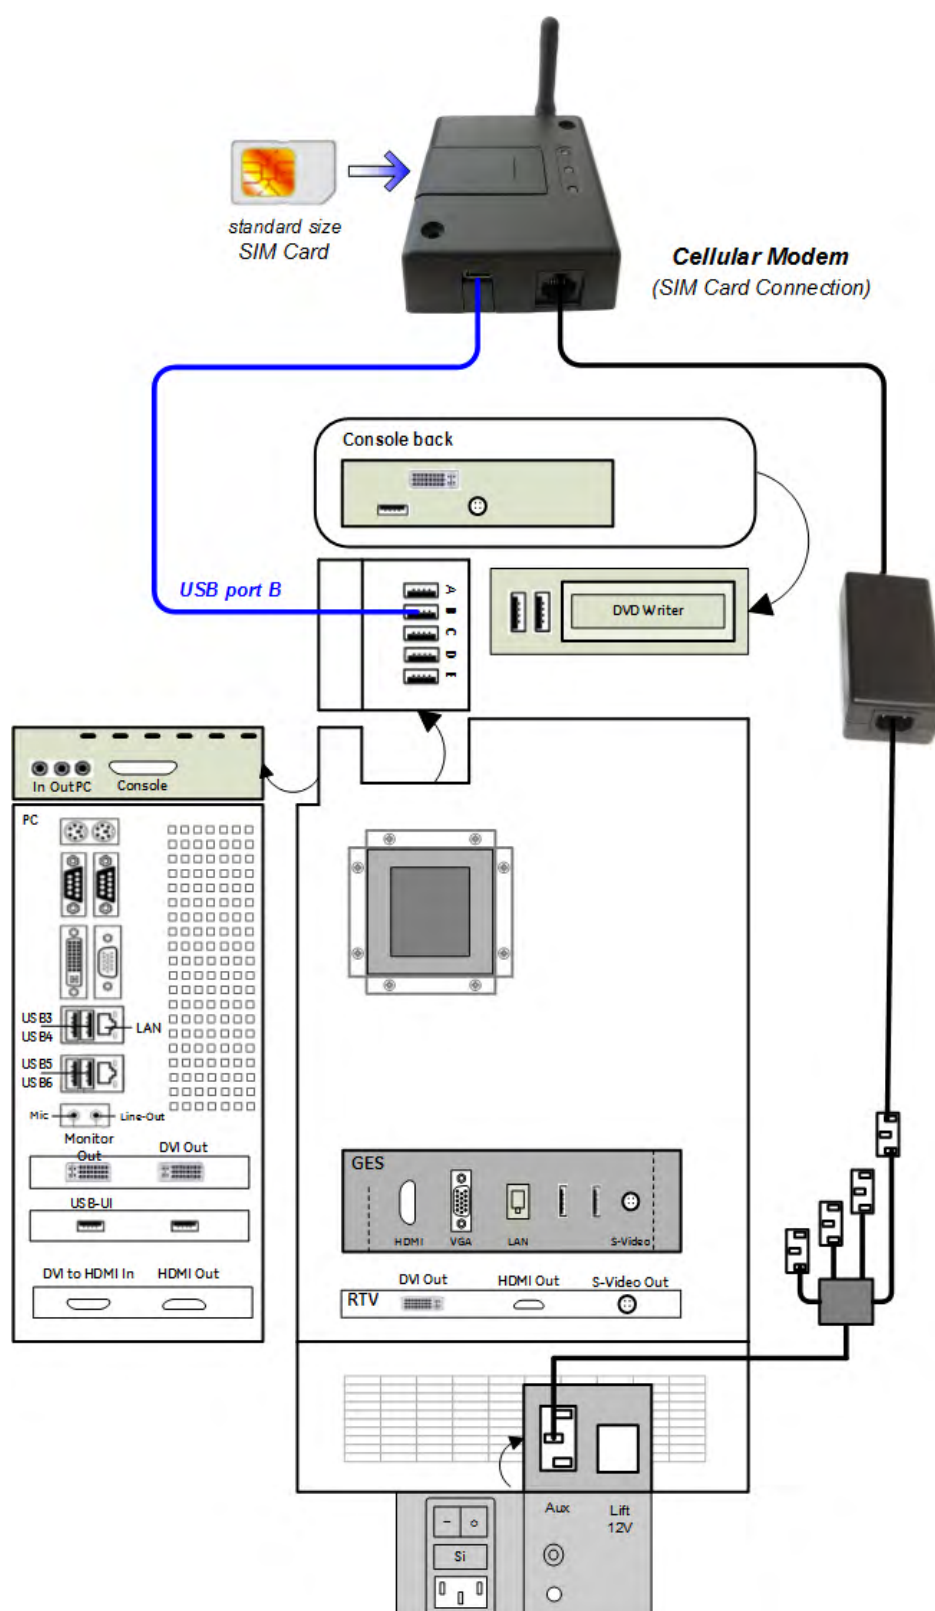

Figure 3-20 Connection Scheme - Cellular Modem
3. Connect the Cellular Modem according to connection scheme, see: Figure 3-20 on page 3-27.